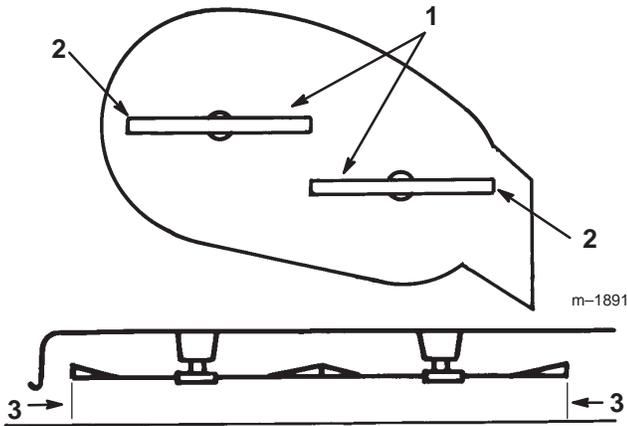

Figure 48
3. Carefully rotate blade(s) side to side (Fig. 48). Measure between the outside cutting edges and the flat surface (Fig. 48). If both measurements are not within 3/16" (5 mm), an adjustment is required; refer to steps 4 and 5.